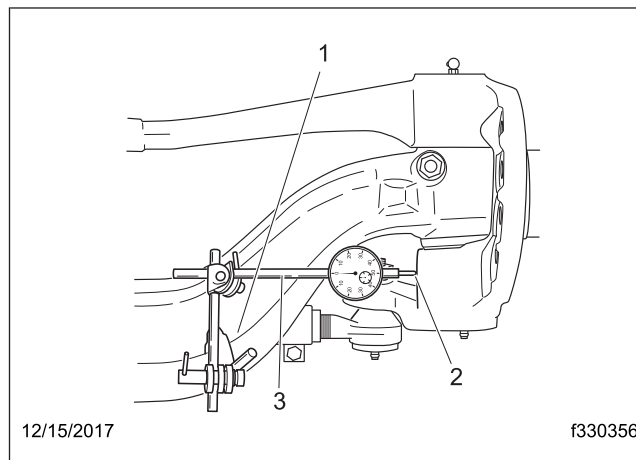

Fig. 27, Lower Bushing Inspection
4. For the **lower** bushing endplay verification, mount a dial indicator on the axle as shown in Fig. 27.